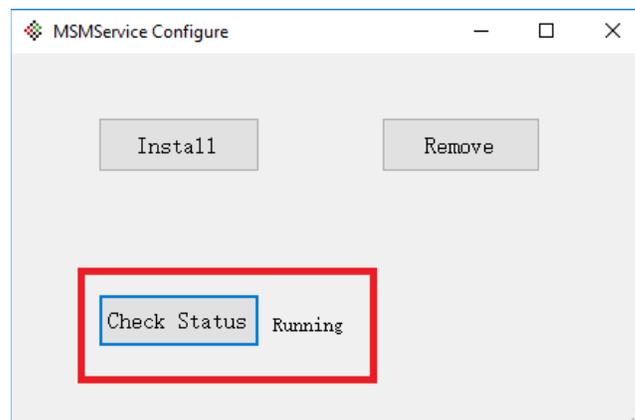

Figure 19
2. Click the "Check Status" button to verify. If the service is installed correctly, the status will show as either "Running" or "Stopped" depending on if the service was started from the MSM Server home page (Figure 19). If the "Check Status" cannot find the MSMService, click the "Install" button.